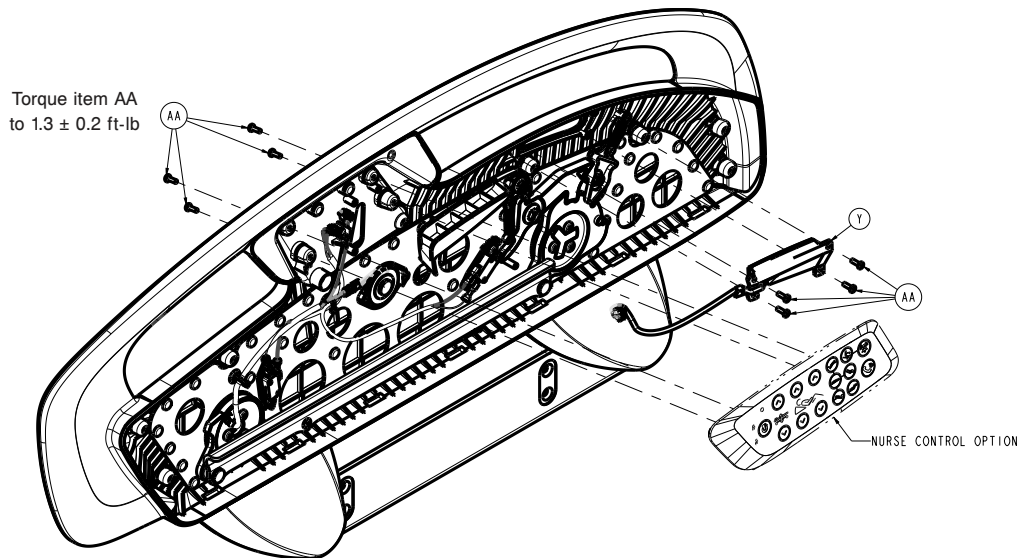

Figure 52 – Replacing the nurse control board
10. Using a T20 Torx driver, remove the four screws (AA) that secure the nurse control board to the siderail hoop (Figure 52). Save the screws. Allow the nurse control board to hang.
10. Using a T20 Torx driver, remove the four screws (AA) that secure the patient control board (Y) to the siderail and unplug the cable (Figure 52).
12. Using a T20 Torx driver, remove the four screws (AA) that secure the patient control board (Y) to the siderail hoop (Figure 52). Remove and save the board and cable.
13. Using a T20 Torx driver, remove the two screws (AA) that secure the speaker (V) to the siderail hoop. Save the screws. Remove and save the speaker.